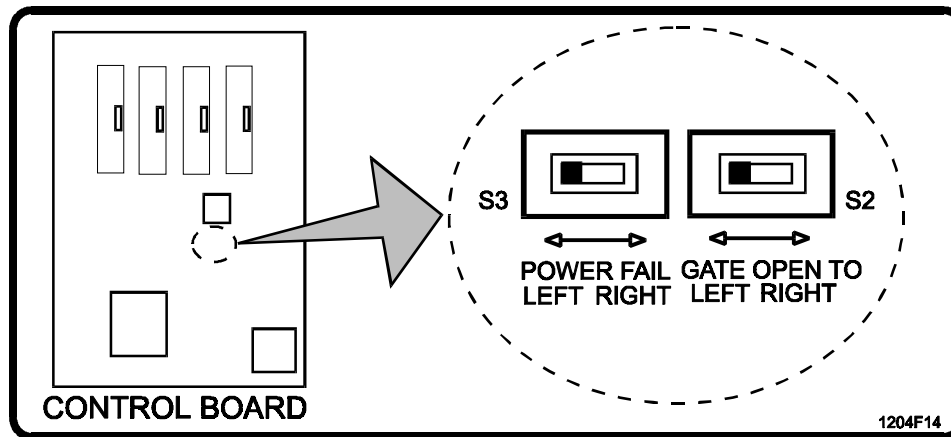

Figure 4. Gate Direction, Power Fail Option Switch Location.
1. Set Power Fail switch S3 to the same position as switch S2 (Figure 4).